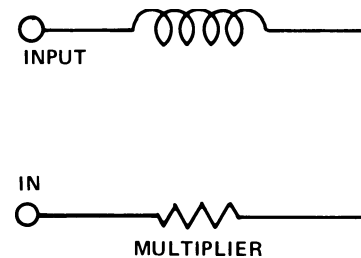
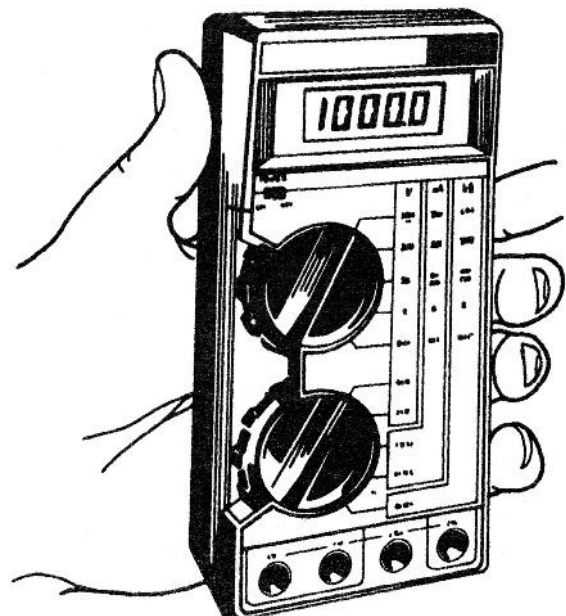

Fig. I-20 Voltmeter's internal circuit with resistor (multiplier) added.
Fig. I-21 Digital handheld voltmeter.
- **Voltmeter.** The voltmeter measures electrical pressure, or volts. It is nothing more than an ammeter with a resistor added in the meter circuit. The high resistance of the voltmeter makes it possible to connect in parallel across a power source (Fig. I-20). A number of resistors, called multipliers, can be switched into a meter circuit to increase its range or make it capable of measuring higher voltages. The voltmeter in Fig. I-21 is capable of measuring voltages ranging from 0 to 150, 0 to 300, and 0 to 750 V by connecting the proper multiplier into the meter circuit. Note how the terminals on top of the meter allow connection of test